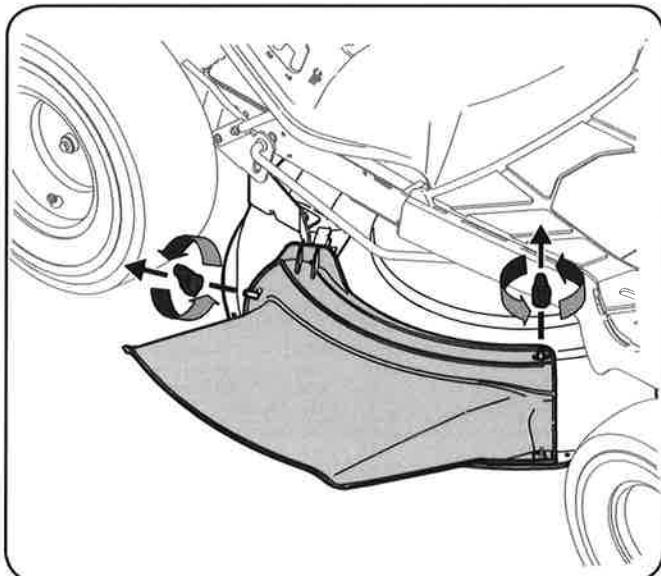

Figure 1
1. Remove the wing knobs that secure the discharge chute in place. See Figure 1.